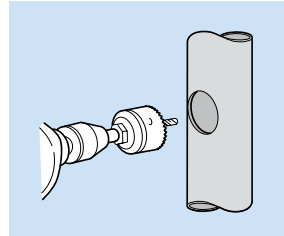

Fig. 45
- Cut correct hole size and deburr. For correct size hole cutter refer to table on page 59 (Fig. 45).